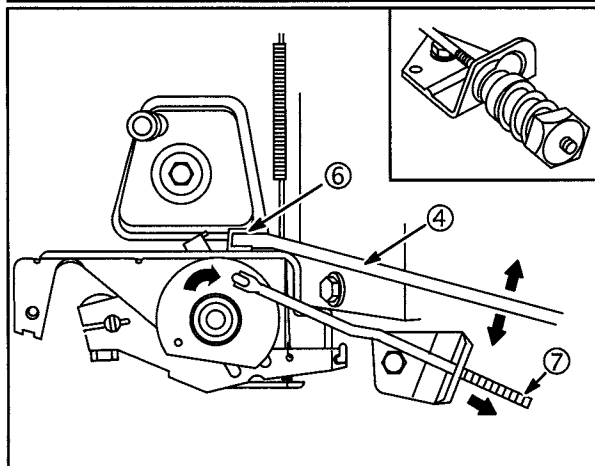

Fig. 40
1. Disengage the adjustable fixed speed control nut (Inset, **Fig. 40**).
7. With engine running, pull control rod (7) out until swivel is against stop. Hold in this position, **Fig. 40**.
8. Use tang bender (4) to bend tang (6). Adjust to Top No-Load RPM for the type of generator listed in Table 1.
9. Re-install control nut, spring and retainer. Turn nut clockwise until threads on control rod are visible from end of nut, inset **Fig. 40**.